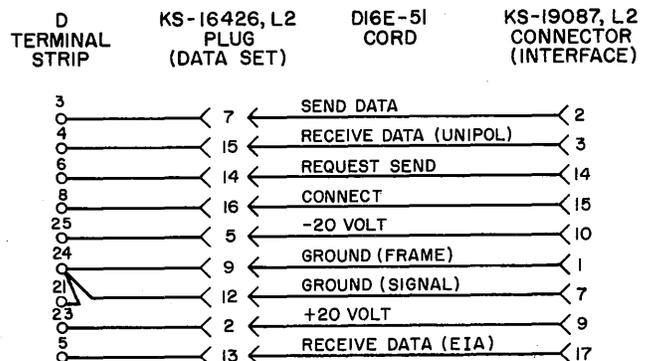

Fig. 1 - D16E-51 Cord, Schematic
- Revise Fig. 1.
- (3) Check for data set cord and connector defects. Refer to Fig. 1.
(4) Check for intermittent trouble in station wiring.
(5) Refer to serving data test center for further analysis and instruction.